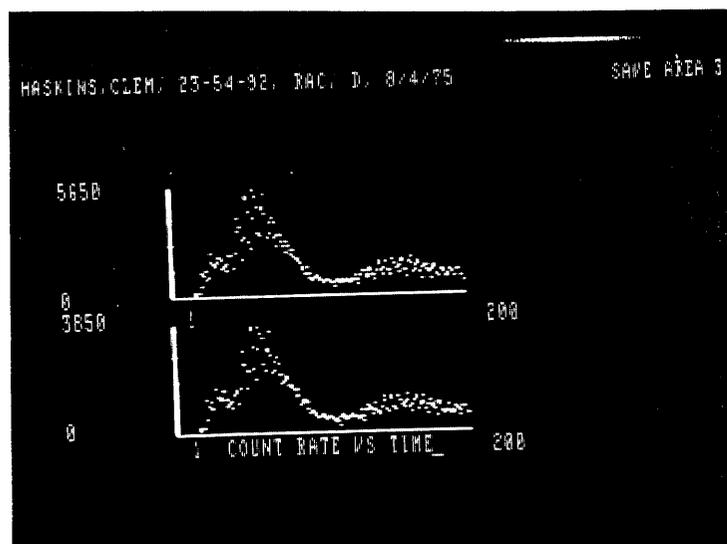

FIGURE 5. Dynamic curves of the two ROIs
- 6) plot the two curves and then save the curves. (Figure 5)